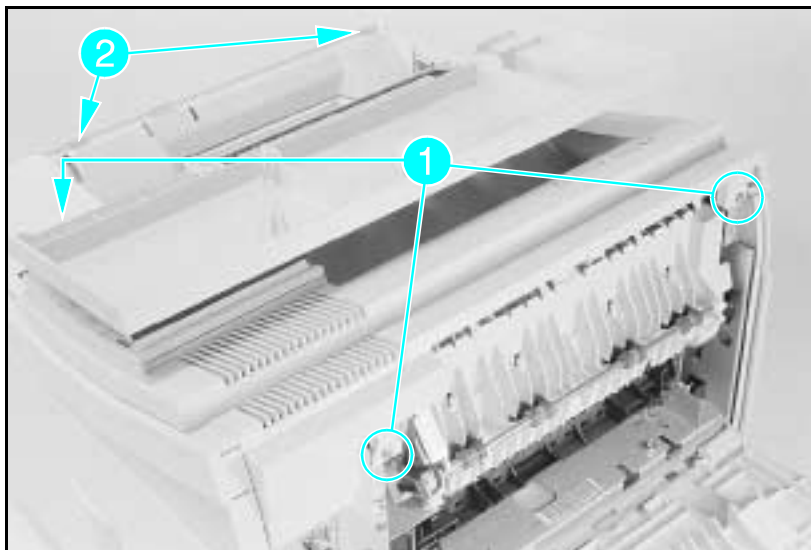

Figure 6-3 Front Top Cover Screws and Latches
- 4 Remove the (3) screws shown in Figure 6-3, callout 1.
- 5 Release the (2) latch points with a flat screwdriver while lifting the Top Cover (see callout 2.)